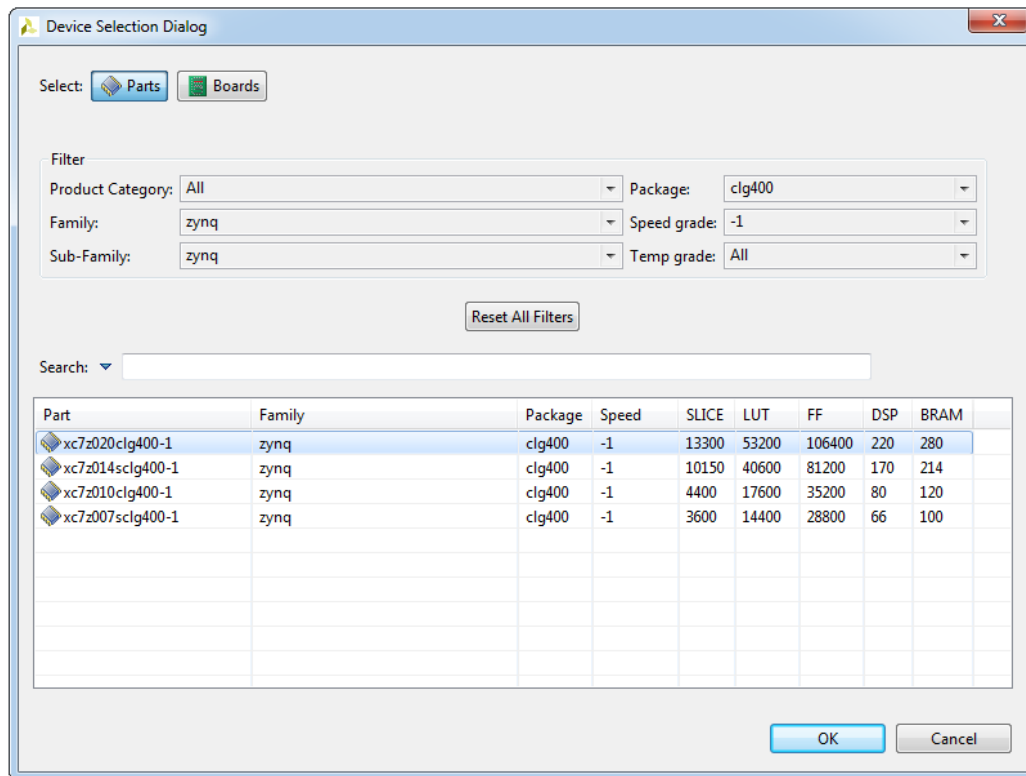

Figure 2.10: Device Selection Dialog dialog box
9. In the **Device Selection Dialog** dialog box choose a default Xilinx part or board for your project. The main component of the **socius** development board is **Zynq-7000 AP SoC**, so in the **Default Part** dialog box select **Parts** option and set the filter parameters on the same way as it is shown on the Figure 2.10.